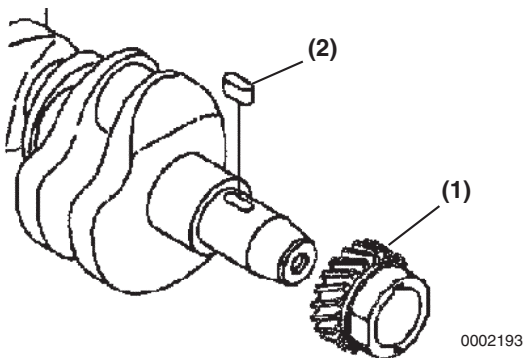

Figure 6-60
13. If necessary, remove the crankshaft gear (**Figure 6-60, (1)**) and key (**Figure 6-60, (2)**). If using a gear puller, be careful not to damage the threads in the end of the crankshaft.